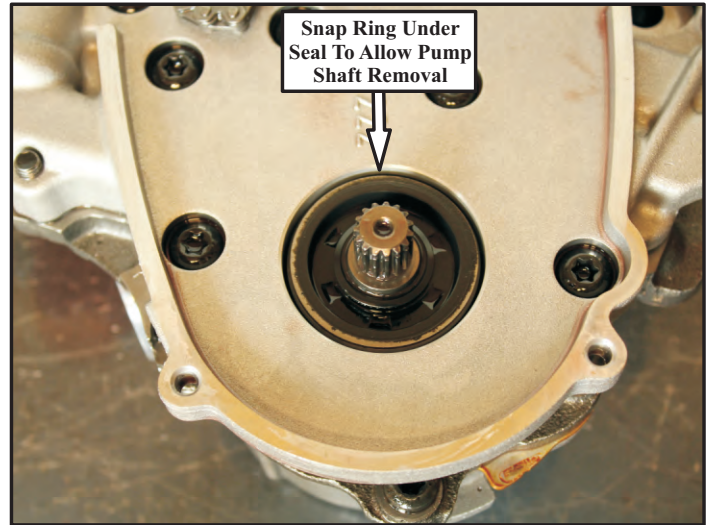

Figure 10
- (6) The pump assembly has a front seal that must be removed to gain access to the fluid pump shaft snap ring (figure 10).